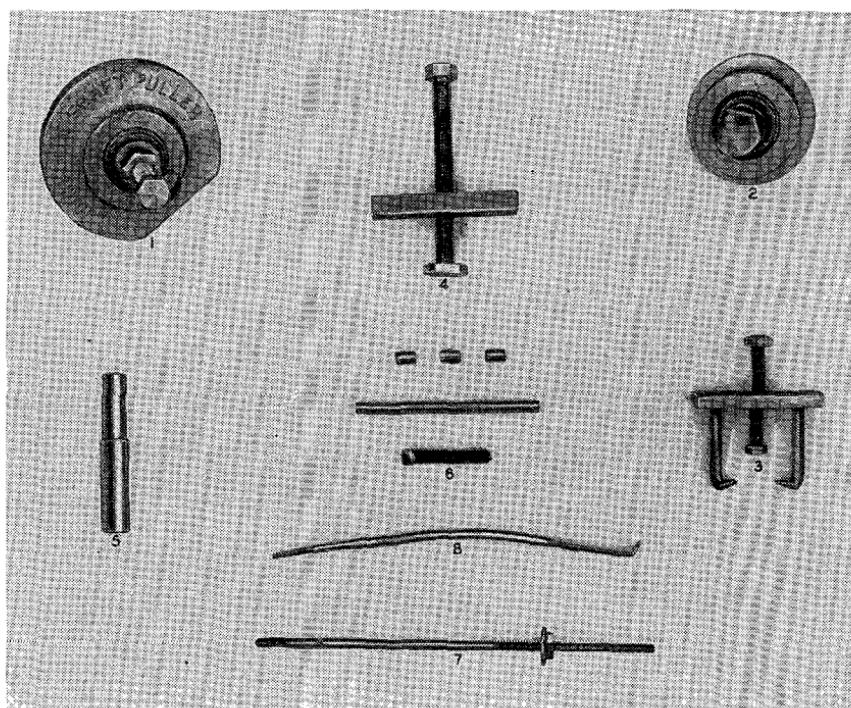
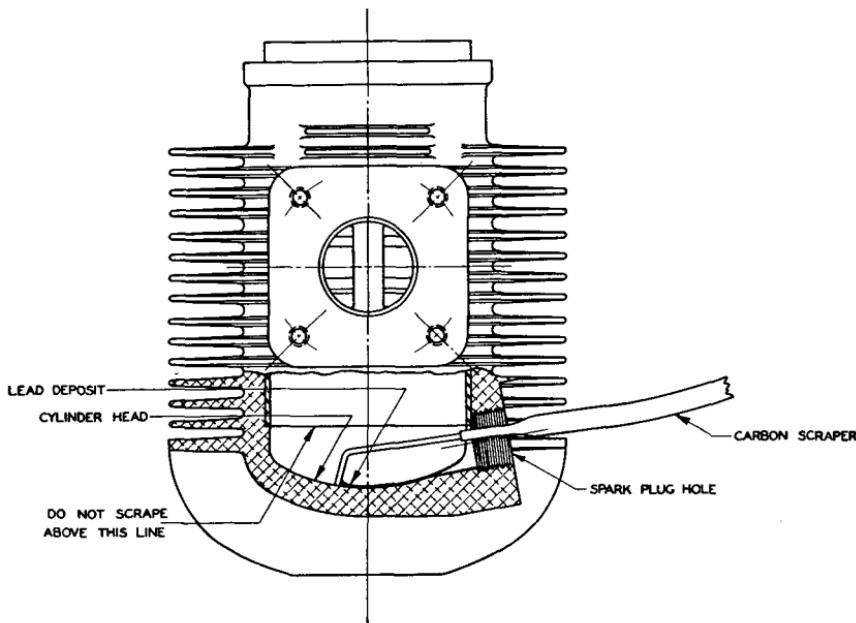

FIGURE 5.—Special tools.
FIGURE 8.—Scraping carbon.
3. Starting and stopping.—*a. Fuel mixture.*—(1) Thoroughly mix $\frac{3}{8}$ pint of oil, engine, SAE 50 or SAE 60, with each gallon of gasoline and pour into the fuel tank mounted above the unit. The fuel tank capacity is approximately 3 gallons. For location of the filler cap see figure 5. Lubrication for the entire engine is obtained by mixing oil with the gasoline, and it is extremely important that
(d) Insert carbon scraper (8, fig. 5) through the spark plug hole and thoroughly scrape the cylinder head to loosen all deposits (see fig. 8). Remove the scraper.